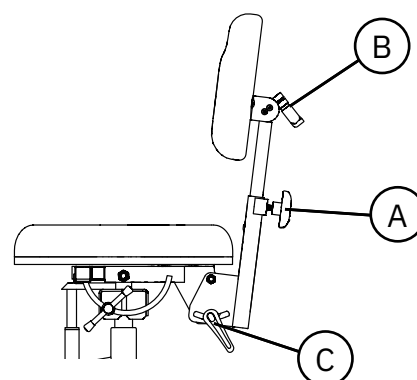

Figure 5.29. Chest support mechanism for REAL 2624.
The chest support mechanism has adjustable height (A), angle of chest support (B) and angle of chest support mechanism (C) (see Figure 5.29). The angle of the chest support mechanism is adjustable from 15° backwards to 30° forward.